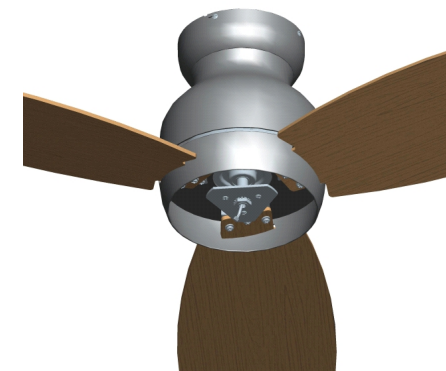

Fig. 6.2
6.2 Repeat for the remaining blades. The installation of the blades is shown in Fig. 6.2.